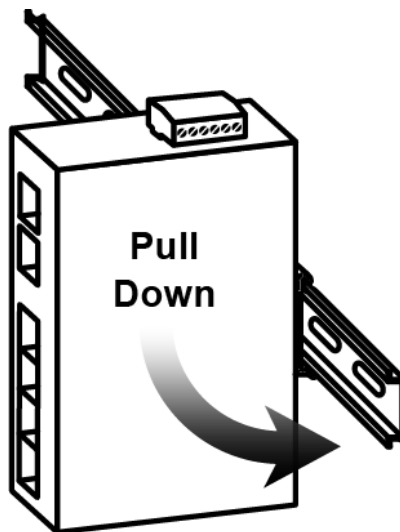

Figure 3.3: Stable the Injector on DIN-Rail
Step 4. Lightly pull down the bracket on to the rail as shown below in Figure 3.3.